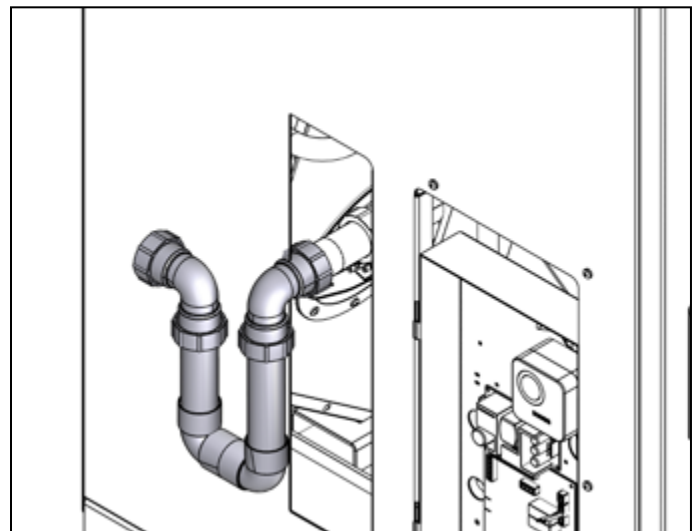

Figure 5-2: Condensate trap fitted on the left side of boiler
- When the access cover is re-fitted to the boiler side panel the inlet connection to the trap will be inside the boiler. Refer to Figure 5-2.